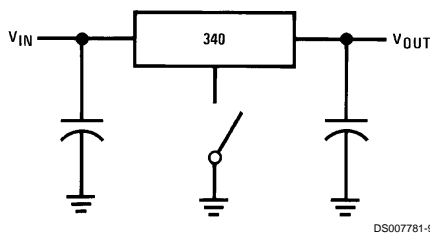

FIGURE 2. Regulator Floating Ground
**Regulator Floating Ground** (Figure 2): When the ground pin alone becomes disconnected, the output approaches the unregulated input, causing possible damage to other circuits connected to  $V_{OUT}$ . If ground is reconnected with power "ON", damage may also occur to the regulator. This fault is most likely to occur when plugging in regulators or modules with on card regulators into powered up sockets. Power should be turned off first, thermal limit ceases operating, or ground should be connected first if power must be left on.